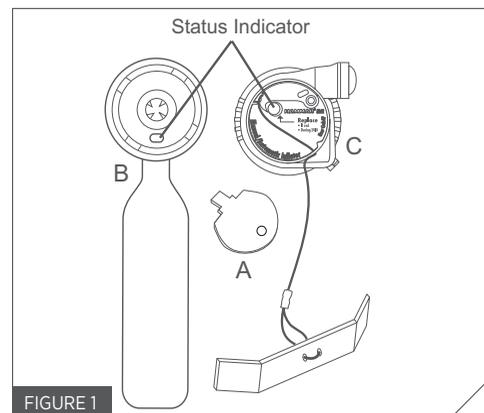

FIGURE 1
- Inflator removal key (A)
- Inflator body and cylinder (B). The “inflator body” refers to the black circular disc attached to the CO2 cylinder. The inflator body has an indicator, which must show green for re-arming
- Inflator cap and pull-handle (C) (Fig. 1). The “inflator cap” refers to the yellow piece and its black locking ring together. The inflator cap has an indicator as well as an expiration date. For re-arming, the indicator must show green and the expiration date must be in the future.